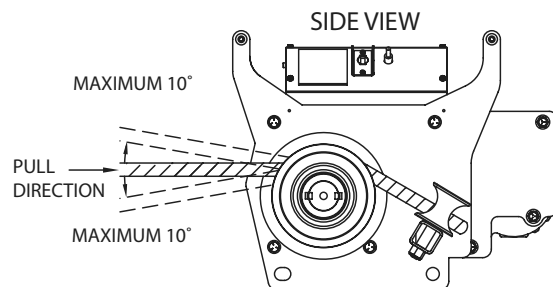

Figure 6a
- ⚠ WARNING** Rope should approach capstan as shown in Figure 6a